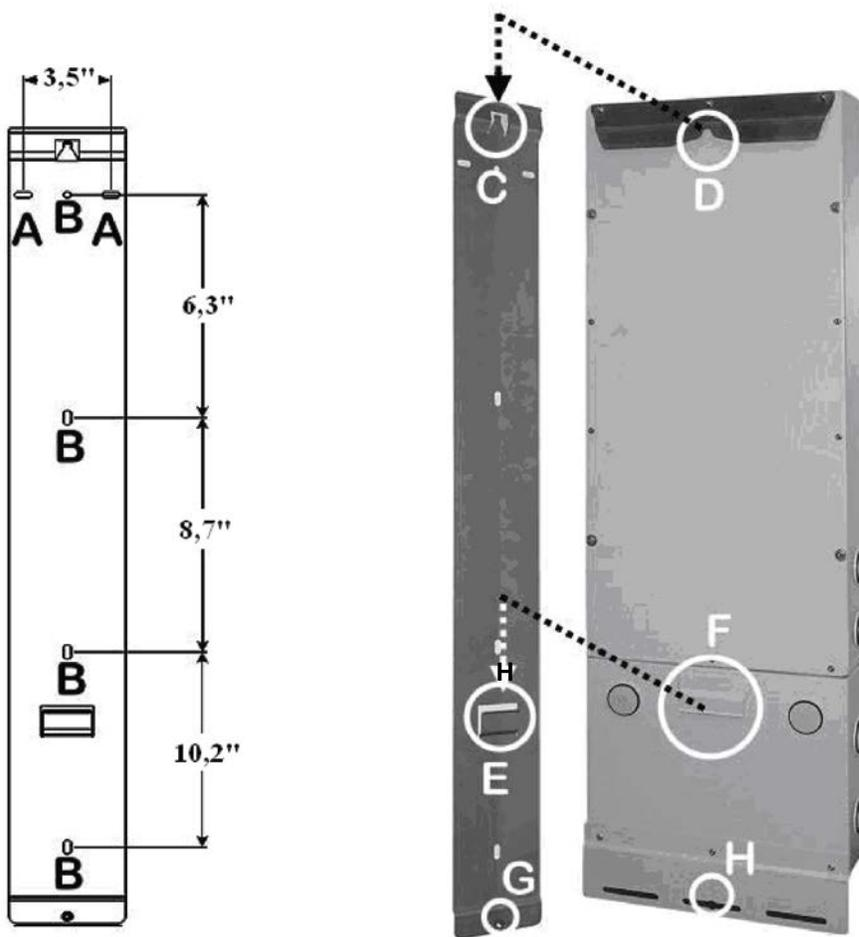

Figure 2:01 Bracket and Mounting Details
Step 2: Orient the bracket such that the "C" hooks face outward and upward. (Figure.2:01)
Step 3: Using the hardware provided, level and mount the bracket to the surface using mounting holes shown in Figure 2:01.